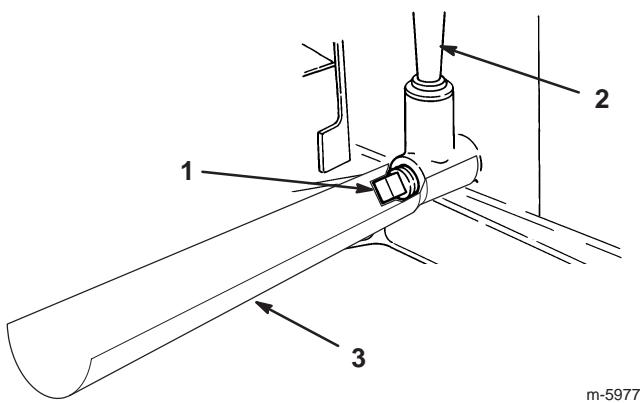

Figure 18
8. Slide the draining funnel underneath the oil dipstick/fill tube (Fig. 18).
10. Remove the drain plug (Fig. 18).